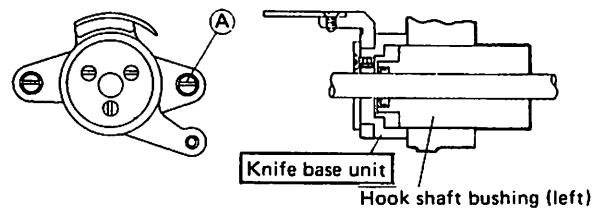

Fig. 2
- (1) As shown in Fig. 2, fit the knife base unit to the hook shaft bushing (left) and fix with the screws (A).